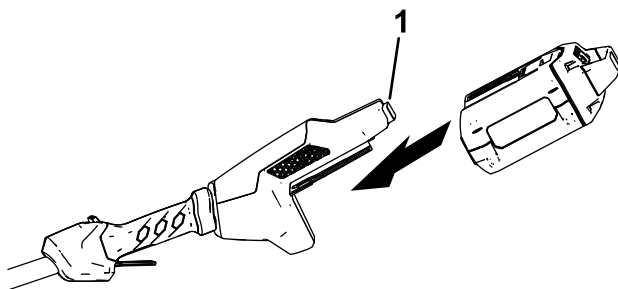

Figure 7
1. Align the cavity in the battery pack with the tongue on the handle housing (Figure 7).
2. Push the battery pack into the handle until the battery locks into the latch (Figure 7).